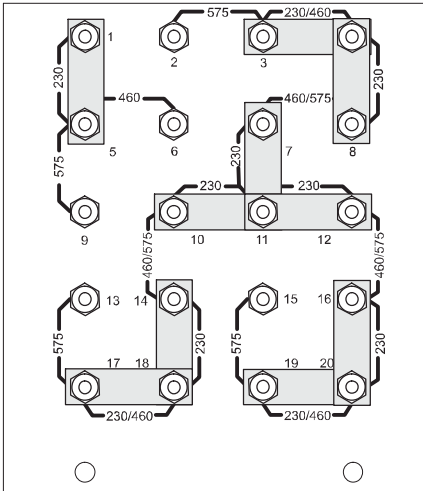

Fig 4a
2. **60 Hz Models** - As shipped from the factory, the ESP-150 is configured for the highest connectable voltage. If using other input voltages, the links on the terminal board (TB) inside the unit must be repositioned for the appropriate input voltage. See figures 4a, 4b and 4c for input voltage configurations. To gain access to the terminal board, open the access panel on the left side.